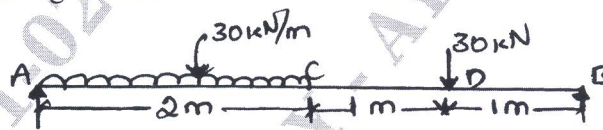

Fig.Q5(b)
b. For the simply supported beam shown in Fig.Q5(b), draw SFD and BMD. Also find point of zero shear and its bending moment.